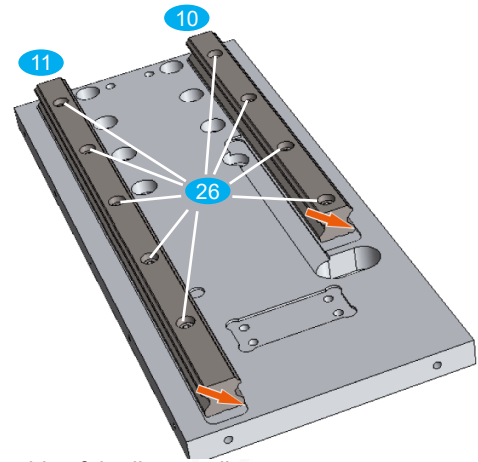

Fig. 3: Assembly of the linear rails
- Place linear rails **10** and **11** on the milled stop edges of plate Z **3** (red arrows in Fig. 3).